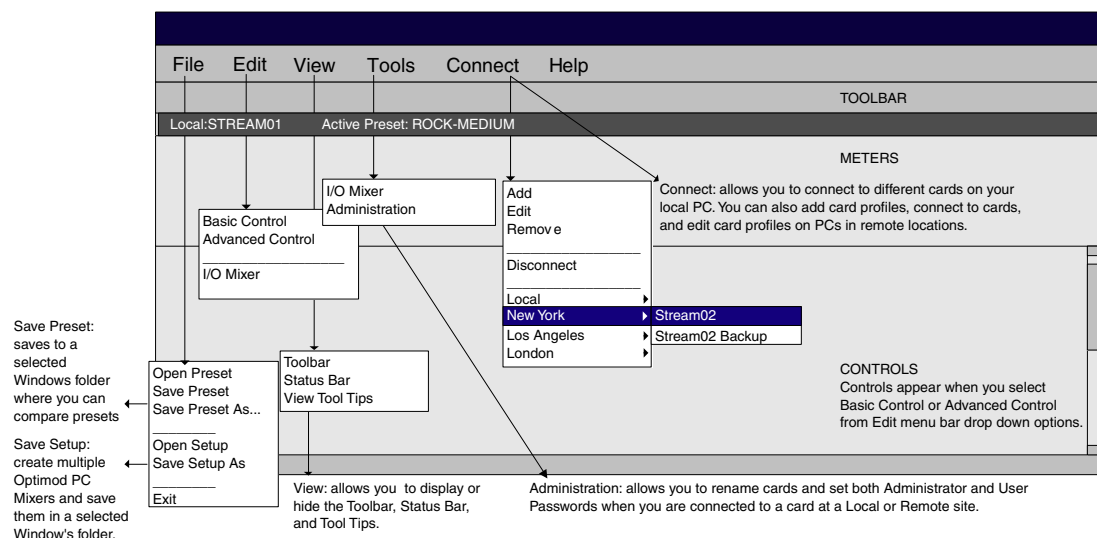

Figure 2-4: The Orban Control Application
- A) Start the Orban control application, `OptimodPC.exe`, by clicking its icon ("agent") in your computer's system tray. (See *Figure 2-4* on page 2-6.)